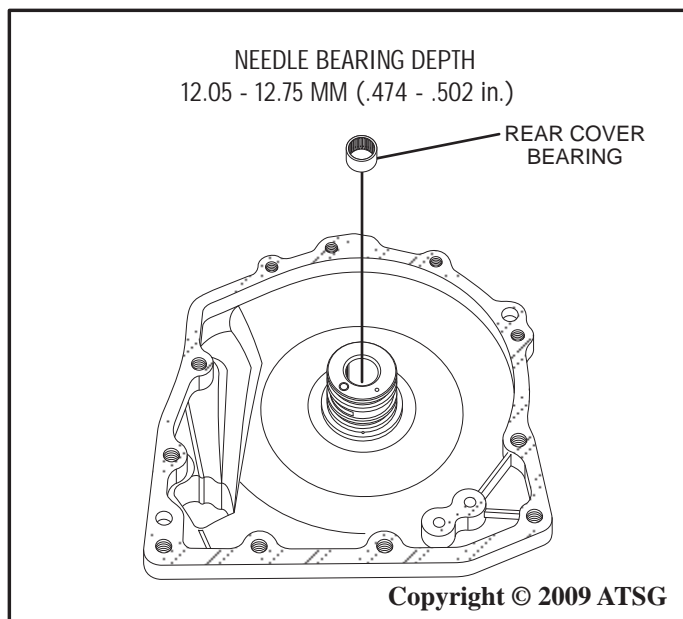

Figure 172
52. Inspect the rear cover needle bearing and if replacement is necessary, remove using SST 09387-00040 (09387-01010, 09387-01030, 09387-01040) or another similar bearing puller using Figure 172 as a reference.
53. Install new needle bearing (*if replacing*) using SST 09950-60010 (09951-00230, 09951-00350) or a similar driver and a press and install the new bearing to a depth of **12.05 - 12.75mm (.474 - .502 in.)** using Figure 172 as a reference.